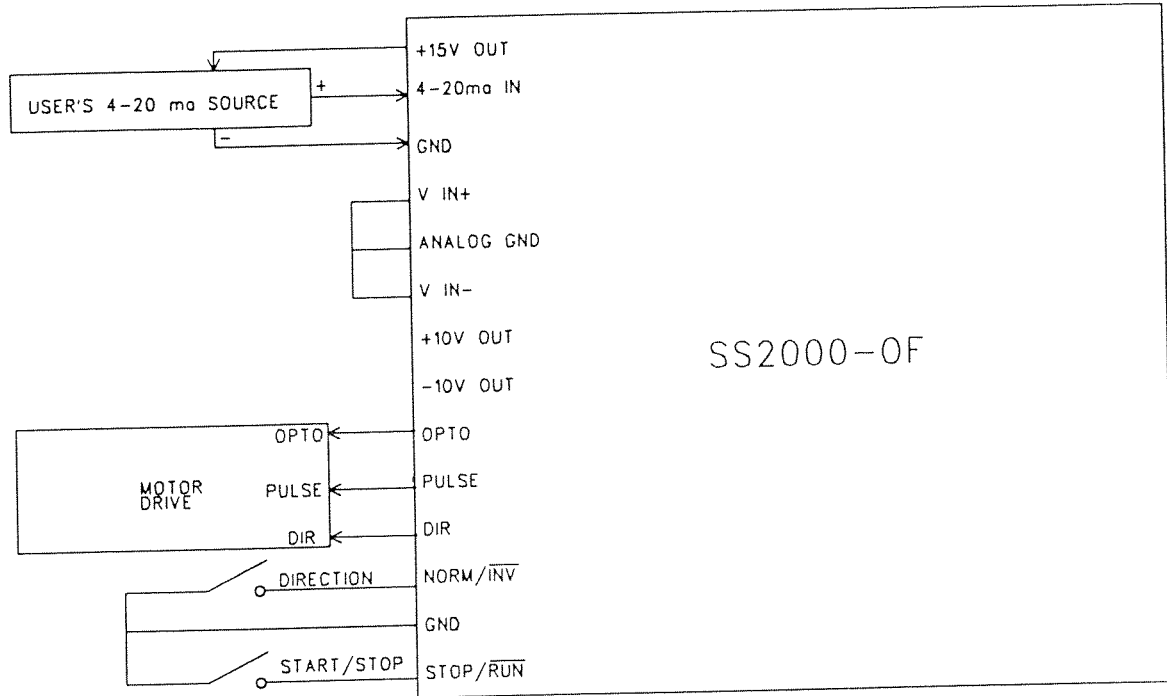

Figure 4.1, 20 mA Input Control Of Oscillator
This input converts a 4-20 mA input current to a 0-10V signal which controls the output of the oscillator. A 20 mA signal corresponds to full output frequency. See Figure 4.1 for connection diagram.
1) 4 - 20 mA input (Figure 4.1)